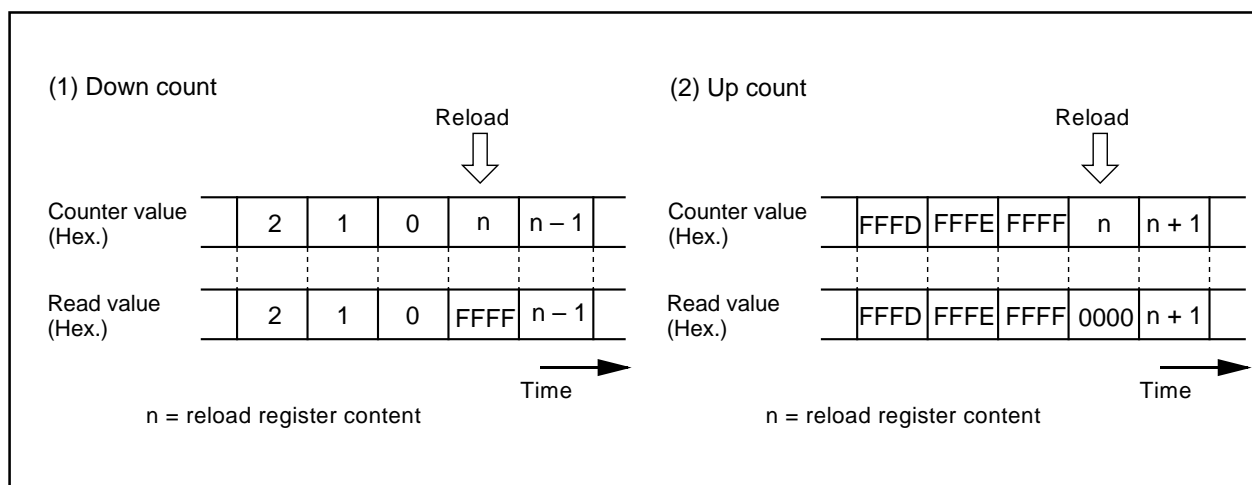

Figure 2.2.29. Reading timer A0 register
- (1) To clear reset, the count start flag is set to "0". Set a value in the timer A0 register, then set the flag to "1".
- (2) Reading the timer A0 register while a count is in progress allows reading, with arbitrary timing, the value of the counter. Reading the timer A0 register with the reload timing shown in Figure 2.2.29 gets "FFFF₁₆" by underflow or "0000₁₆" by overflow. Reading the timer A0 register after setting a value in the timer A0 register with a count halted but before the counter starts counting gets a proper value.